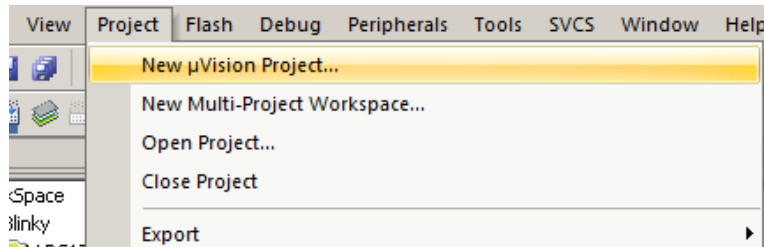

Figure 8.1: Keil IDE: Create a New Project
- Project  $\rightarrow$  New  $\mu$ Vision Project (See Figure 8.1)